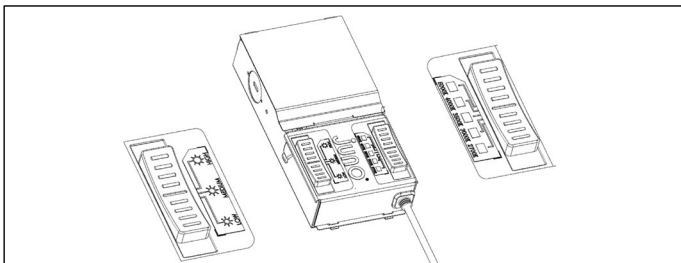

Figure 4
4. Uses witch on the driver box (Lumen/CCT option need to be selected before fixture installation) to select appropriate lumen output (High-Medium-Low option) and light color (27K-30K-35K-40K-50K option). (Figure 4)